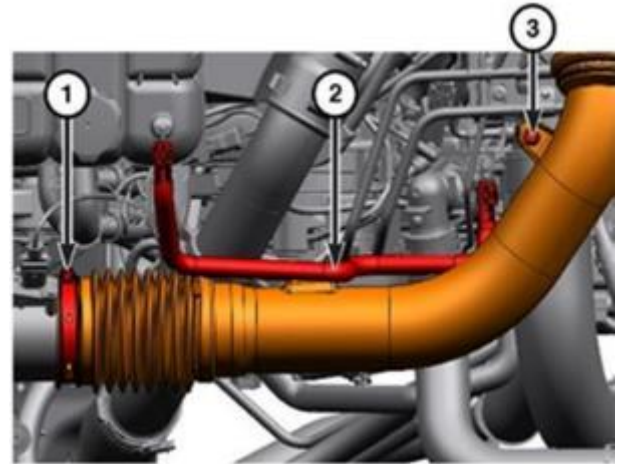

Figure 3 – Clean Air Hose
5. Loosen the clamp (1) and disconnect the clean air hose (Figure 3).
6. Detach the coolant hose retainer (2) from the clean air hose (Figure 3).
7. Remove the bolt (3) securing the clean air hose (Figure 3).